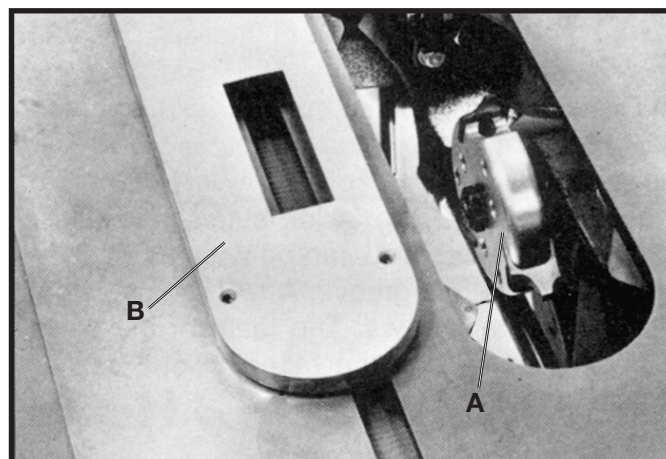

Fig. 67
1. A moulding cutterhead (A) Fig. 67 is shown assembled to the saw arbor.